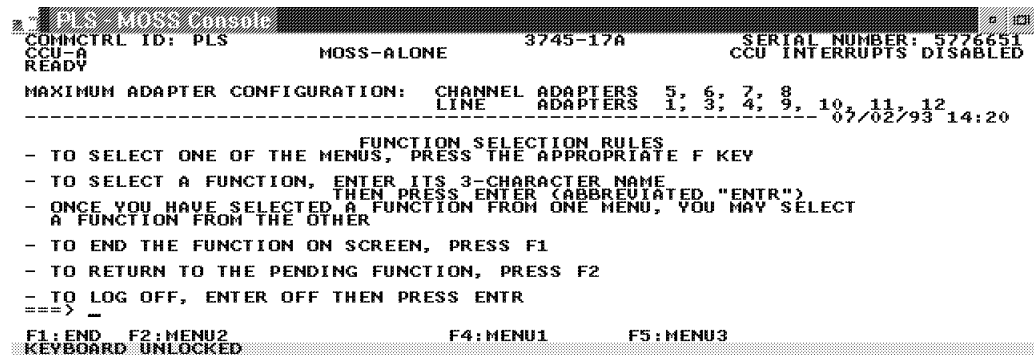

Figure 7-2. MOSS Primary Menu
- d. \_\_\_\_ From the MOSS primary menu (see Figure 7-2), **type CDF** and **press ENTER**.